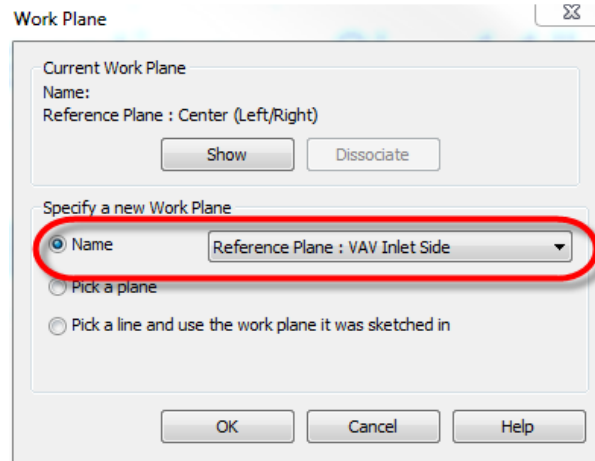

Figure 34. Establishing the Work Plane for the VAV Inlet Sleeves.
12. Using the procedures covered previously, create the two Reference Planes and the *Inlet Separation* parameter dimension shown in Figure 34. It does not need to be a Shared Parameter. Set the initial value for the *Inlet Separation* parameter to 11", group it under *Dimensions* and leave it as a *Type*-based parameter. Don't forget to ensure that the Reference Planes are already symmetrical about the center Reference Plane before applying the Equality Constraint.